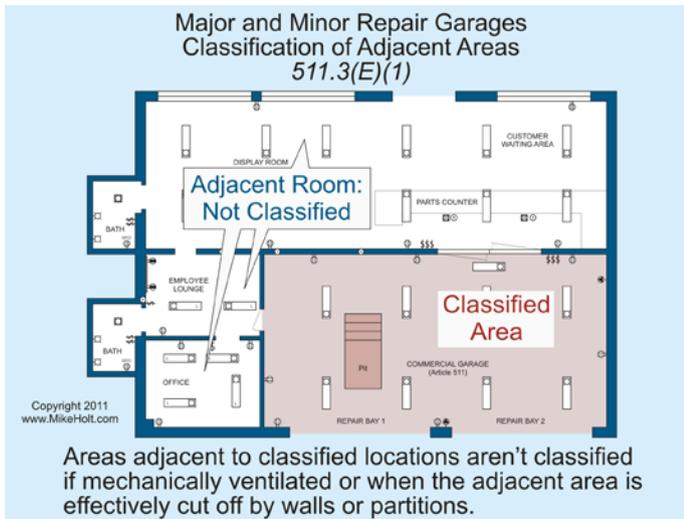

Figure 511-8
(1) **Classification of Adjacent Areas.** Areas adjacent to classified locations aren't classified if mechanically ventilated at a rate of four or more air changes per hour, or when walls or partitions effectively cut off the adjacent area. **Figure 511-8**